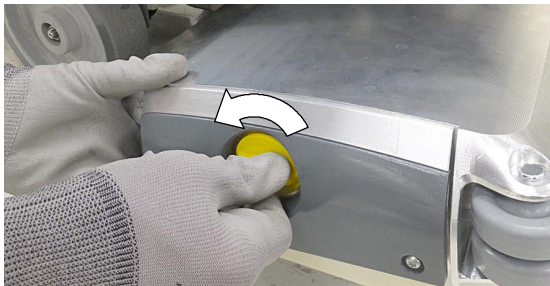

FIG. 24
3. Remove the idler plate from the scrub head by unscrewing the yellow knob (Figure 24).